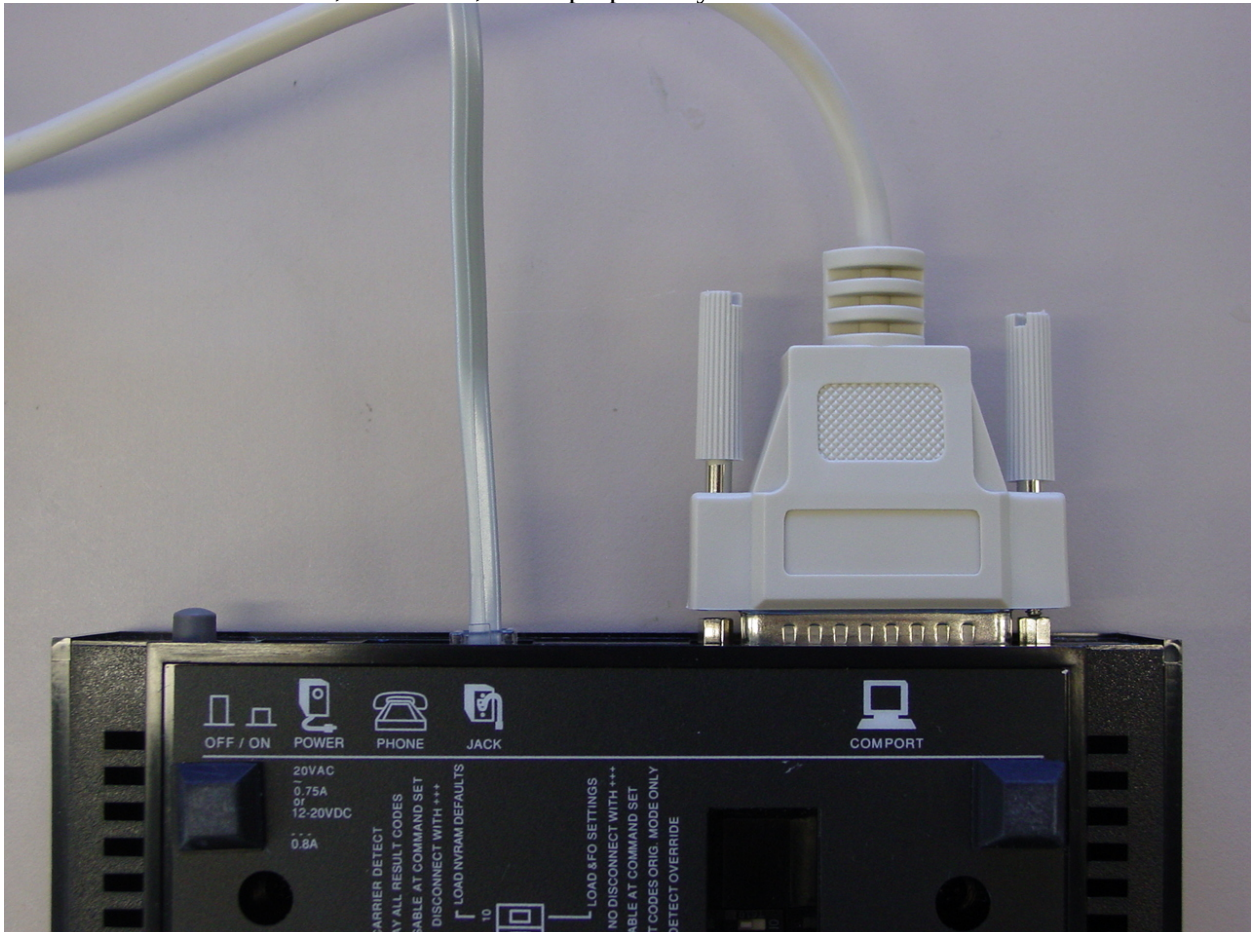
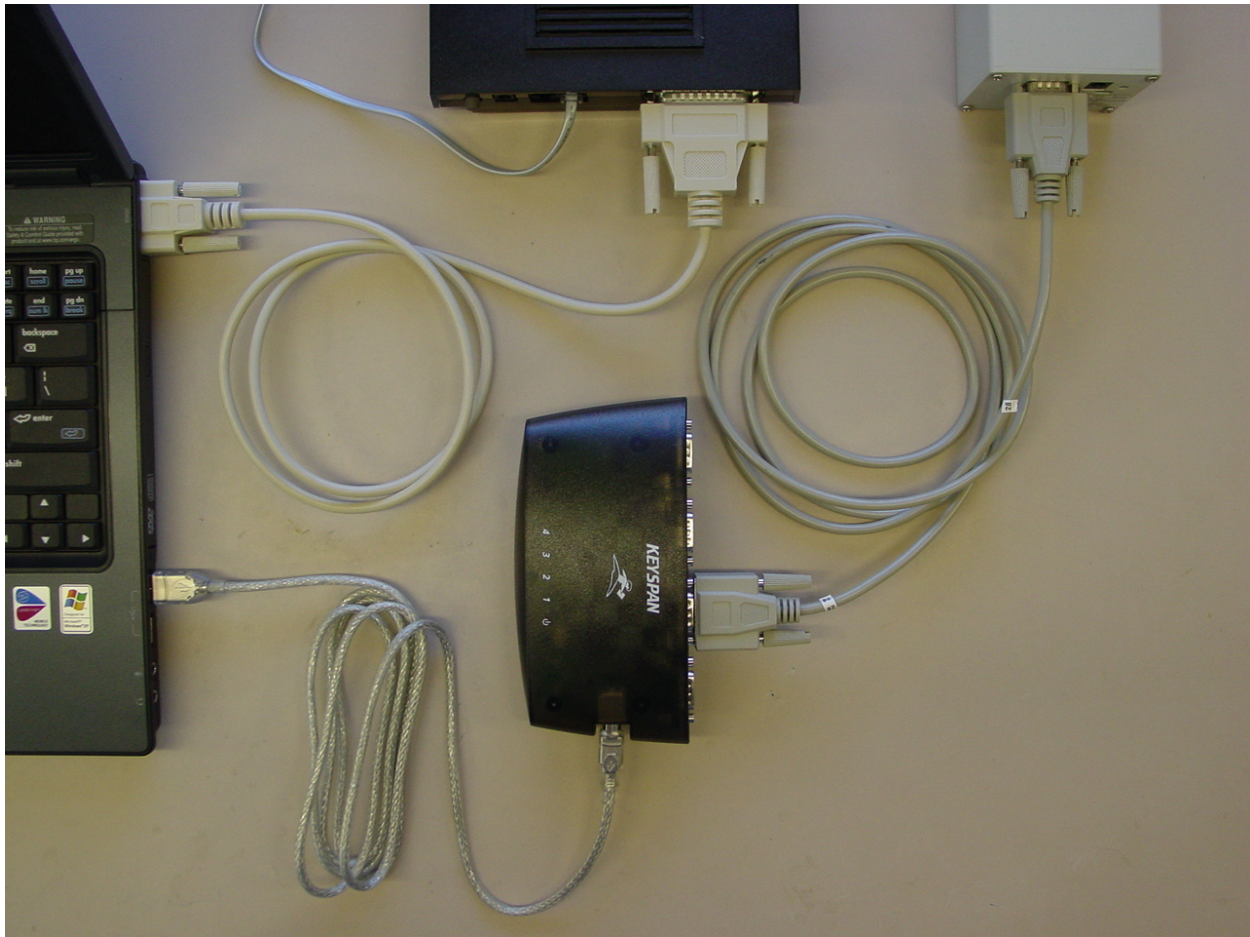

Figure 1-1. Modem connections to the computer's serial port and iridium phone line.
Figure 1-2. All Dock Server Hardware connections.
5. Connect the U.S. Robotics modem to the iridium phone line using the RJ-11 phone cable supplied with the modem. On the modem, the plug labeled "JACK" should be used (the plug closest to the 25-pin connector). Figure 1-1 shows this modem connection. Figure 1-2 shows all hardware connections.